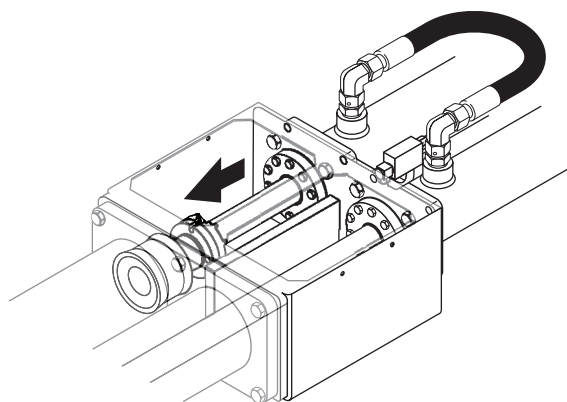

Figure 23
8. Restart the engine and clear all the E-stop requests. Press the concrete pump forward or reverse button and ram change button simultaneously to slowly extend the cylinder rod until it barely contacts the rubber ram flange (Figure 23). Release the concrete pump forward or reverse button or ram change button to stop the differential cylinders. Shut off the engine.